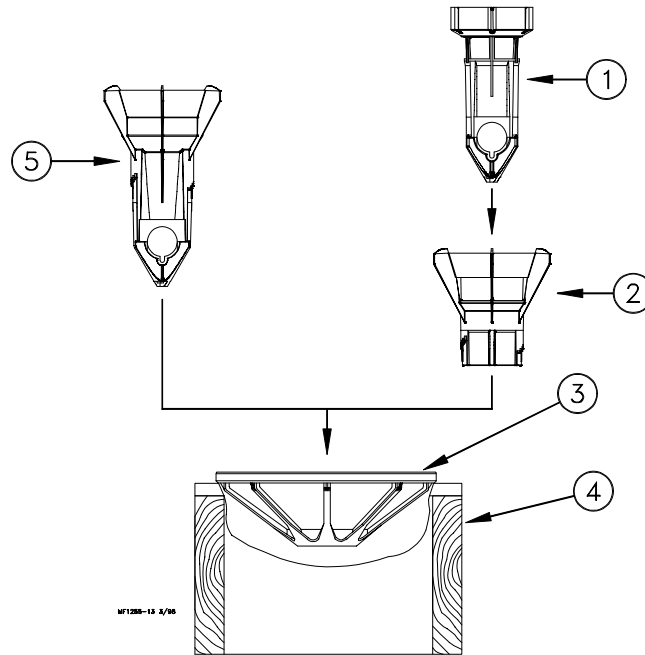

Figure 19. Model G Plus Feeder Assembly
2. Two-Piece Model G Plus Feeders: Install the Cone Adjustment and Support Cone in the grill, as shown in Figure 19.
One-Piece Model G Plus Feeders: Install the One-Piece Support Cone in the grill, as shown in Figure 19.